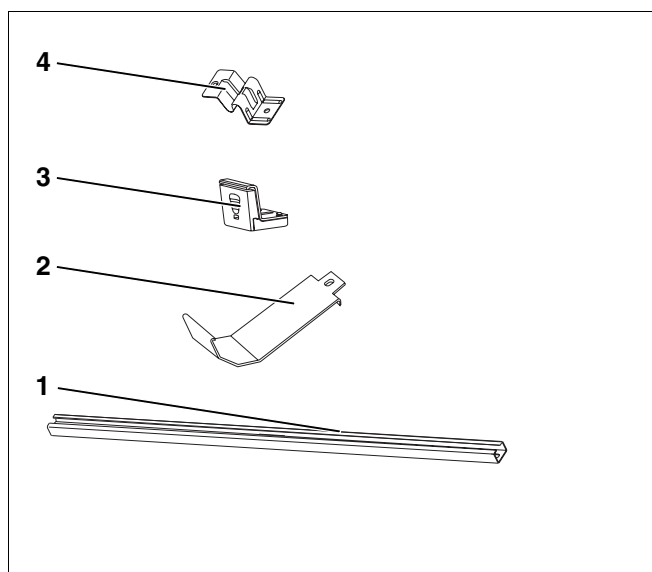

Fig. 2 Basic set
4.2.1 Basic set (per collector array for the first collector) – Fig. 2